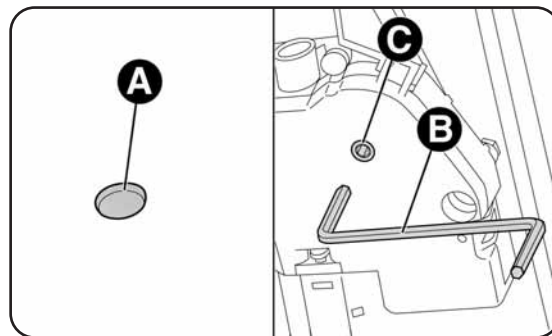

fig. 55
- remove the protective cap A-fig. 55 located in the middle of the roof;